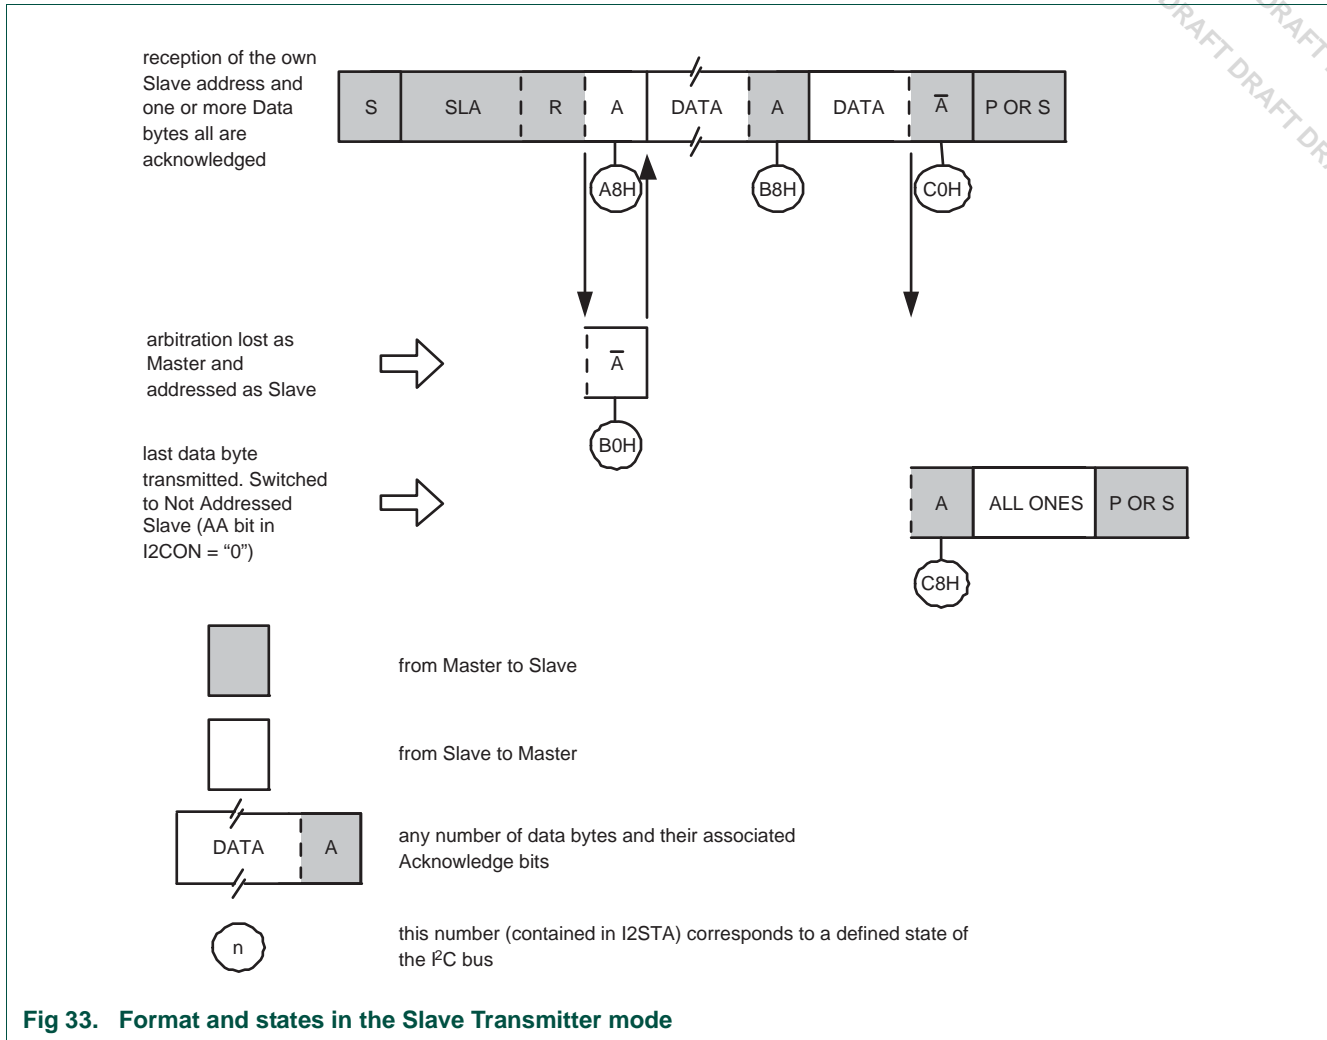

Fig 33. Format and states in the Slave Transmitter mode
In the slave transmitter mode, a number of data bytes are transmitted to a master receiver (see Figure 33). Data transfer is initialized as in the slave receiver mode. When I2ADR and I2CON have been initialized, the I2C block waits until it is addressed by its own slave address followed by the data direction bit which must be “1” (R) for the I2C block to operate in the slave transmitter mode. After its own slave address and the R bit have been received, the serial interrupt flag (SI) is set and a valid status code can be read from I2STAT. This status code is used to vector to a state service routine, and the appropriate action to be taken for each of these status codes is detailed in Table 204. The slave transmitter mode may also be entered if arbitration is lost while the I2C block is in the master mode (see state 0xB0).